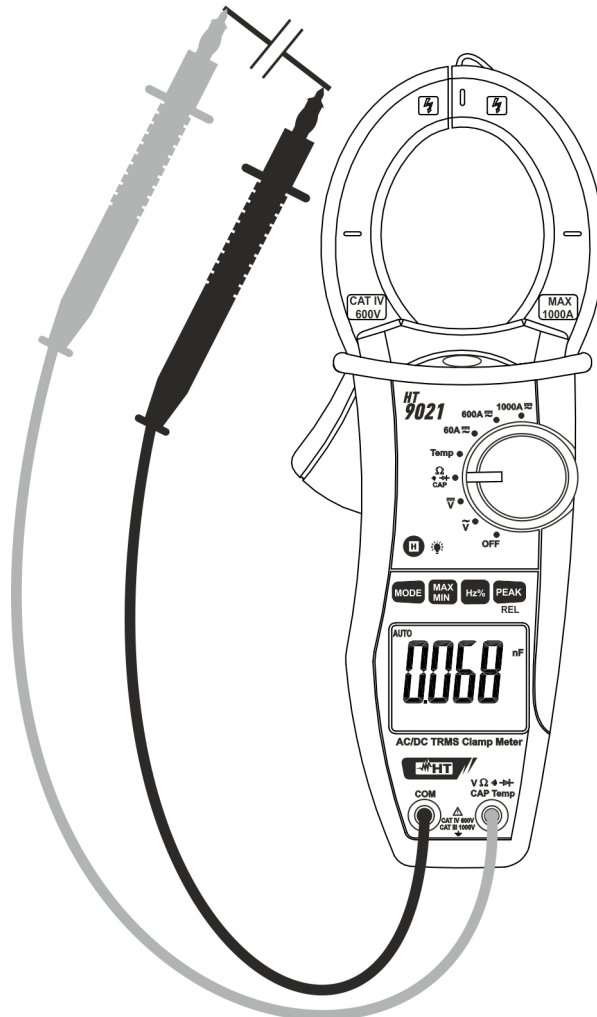

Fig. 7: Taking Capacitance measurement
3. Insert the red test lead plug into $V\Omega \cdot \text{CAP Temp}$ jack and the black test lead plug into **COM** jack (Fig. 7)